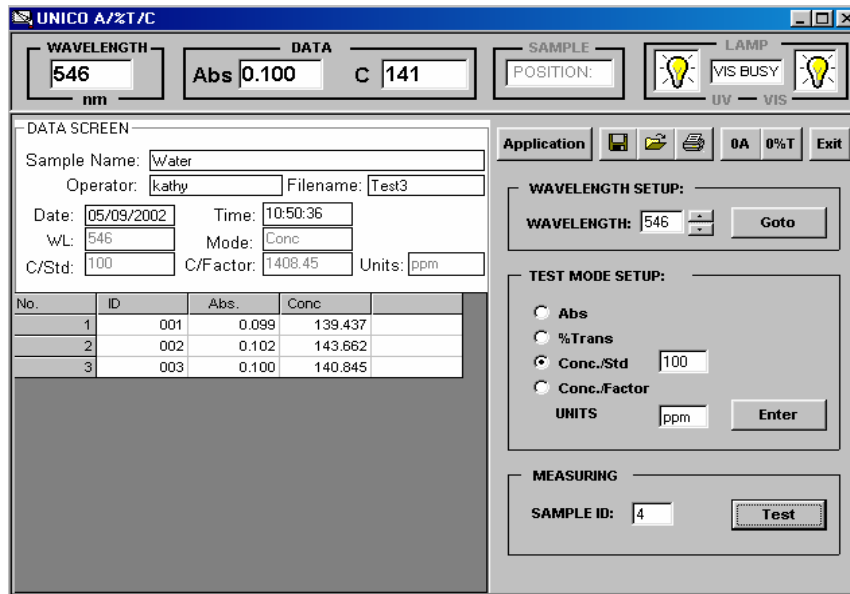

Figure-23 Sample Test Results of **Concentration/Standard Mode**
- Step 7A: Place your sample(s) in the Sample Compartment and click the **TEST** button for each sample to be measured. **Absorbance** and the **Concentration** of the samples will be displayed in the **Data Table** (Figure-23).